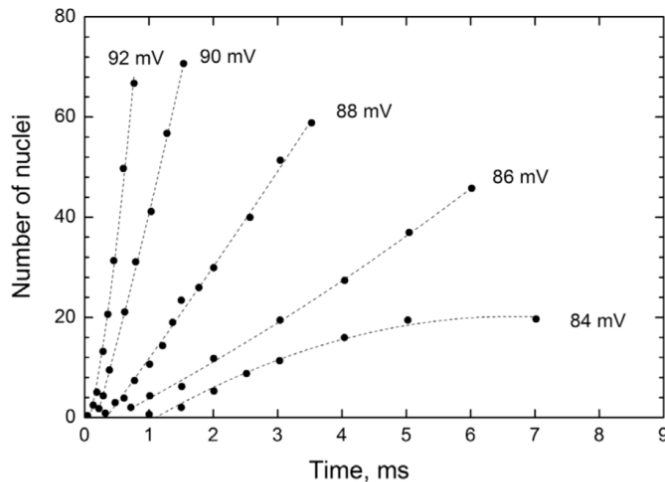

Figure 13.8 The number of nuclei versus time for electrodeposition of mercury on Pt at different overpotentials. *Source:* Adapted from Toshev 1969.
- Given that J does not change with time \rightarrow number of nuclei per area (Z_{nucl}) increases linearly with time (Fig. 13.8)